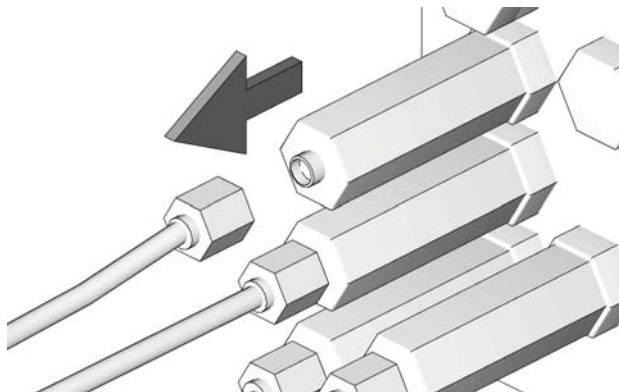

FIG. 9
2. If the meter is located on a manifold, use a 7/16" wrench to remove tubing (FIG. 9).